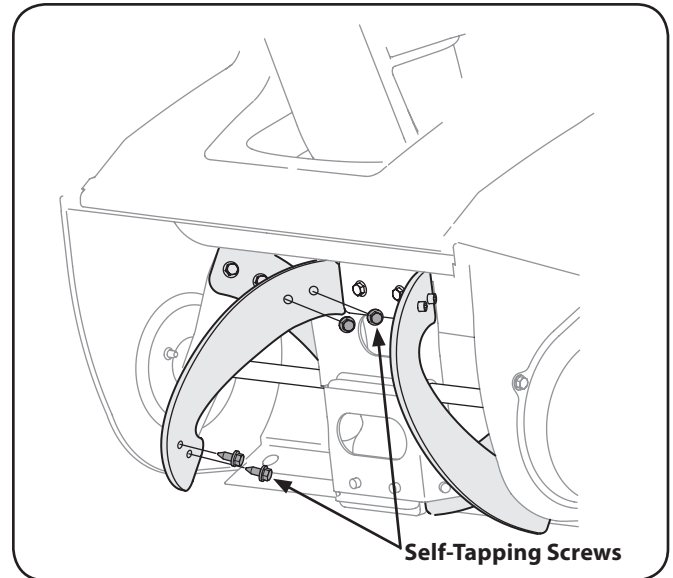

Figure 8-3
1. Remove the existing rubber paddles by unthreading the hex washer screws that secure them to the auger. See Fig. 8-3.